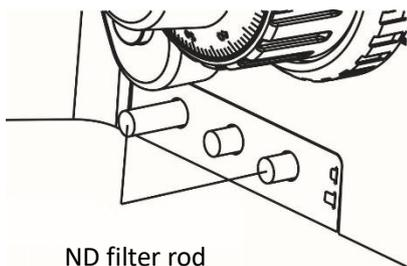

Fig.20
**3-16 Use the ND filter rod (Fig.20)**
As shown in figure 20, when the rod is pushed in, the filter is in use state. When the rod is pushed out, the filter is in empty state. LBD is a color temperature filter. ND25 is a color filter with a light transmittance of 25%, and ND6 is a color filter with a light transmittance of 6%.